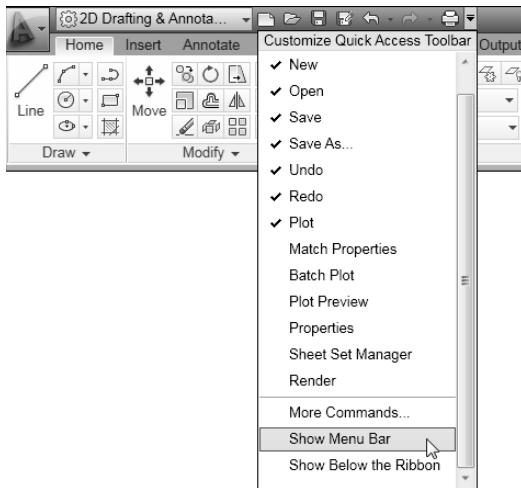

Figure 8-1:
- ✓ **If you're an experienced AutoCAD user who's been away for a release or two:** Give the Ribbon a decent test drive before you switch to the AutoCAD Classic workspace. To ease your transition, you can display the classic menu bar above the Ribbon. Simply click the down arrow at the right end of the Quick Access toolbar and choose Show Menu Bar (see Figure 8-1).